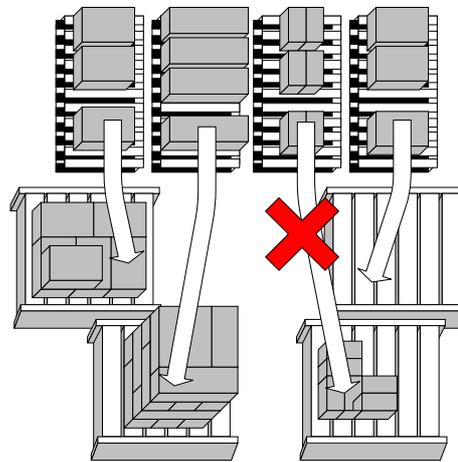

Figure 2.2 Multiple handling function
- (1) While several palletes are loaded in same time, it is impossible to load precedently an specific pallet.
- (2) Refer to figure 2.2 & 2.4.